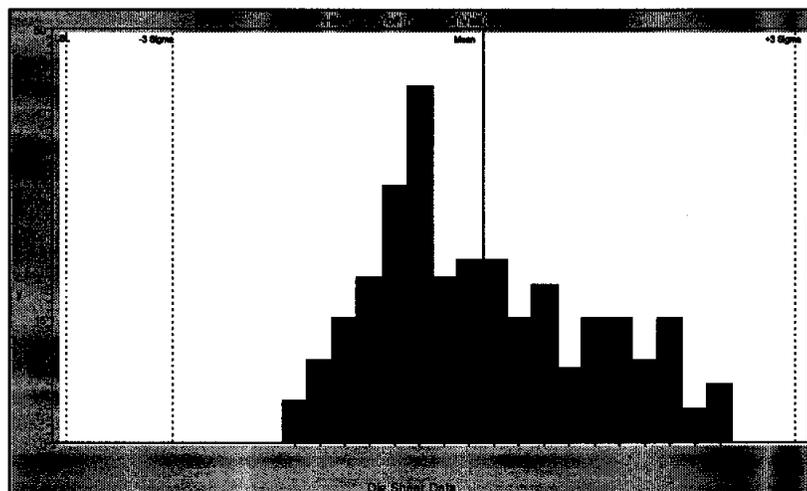

Figure 3
Step 6: Construct a histogram of the individual values (Figure 3). Here the last 100 subgroups (300 individual readings) covering approximately 2 months worth of data were used to generate this histogram. Note: When the raw data is skewed, as in this example, there will be a slight skew in the sample means which are rough approximations.